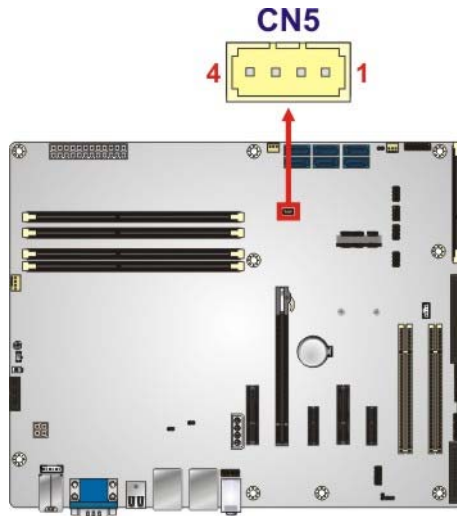

Figure 3-14: I²C Connector Location
- CN Location:** See Figure 3-14